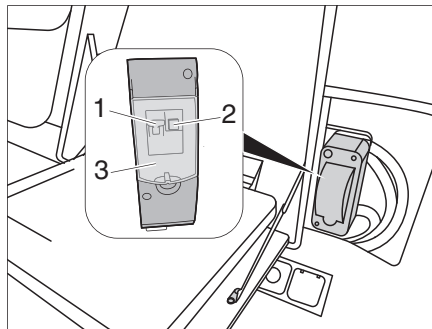

Fig. 41 230 V automatic circuit breaker
The 230 Volt power supply system (external connection) is equipped with an automatic circuit breaker (Fig. 41). This serves in particular as wiring protection. The fuse box is located in the rear to the right of the cooker compartment behind a flap. The automatic circuit breaker is triggered at a short-circuit and at an overload in the supply network.
- Open the cover flap (Fig. 41,3).
The 230 V connection is protected by a two-pole automatic circuit breaker (Fig. 41,1).
- ▷ The residual current circuit breaker (Fig. 41,2) for 230 volts should be tripped once annually so that the mechanism does not "stick" and the tripping time is not extended.